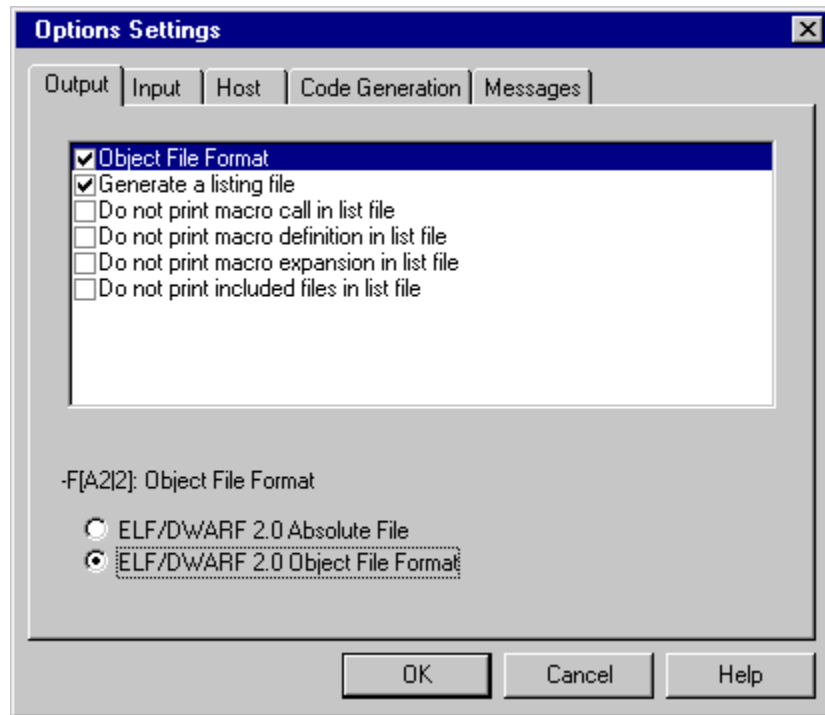

Figure 1-7. Selecting an Object File Format
3. In the **Output** folder, select the check box in front of the label **Object File Format** shown in **Figure 1-7**. Select the radio button **ELF/DWARF 2.0 Object File Format** and click **OK**.